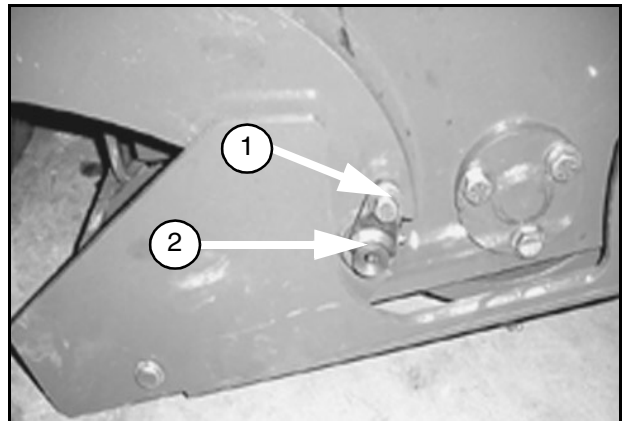

Figure 36.
1. Remove the flag pin bolt (1) as shown in Figure 36.
2. Remove the pivot pin (2).